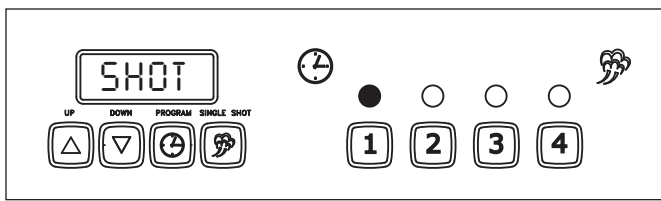

Figure 6. SHOT Mode on Menu 1
SHOT (Steam Shot Time) is used to adjust the water volume used during each solenoid operation (shot of steam) (Figure 6).
9. Press the **PROGRAM** button again and “SHOT” will appear in the display for a moment (Figure 6).
11. Press the selected channel button to store the changes (Figure 6) or press another channel button to store the changes and select a new channel.